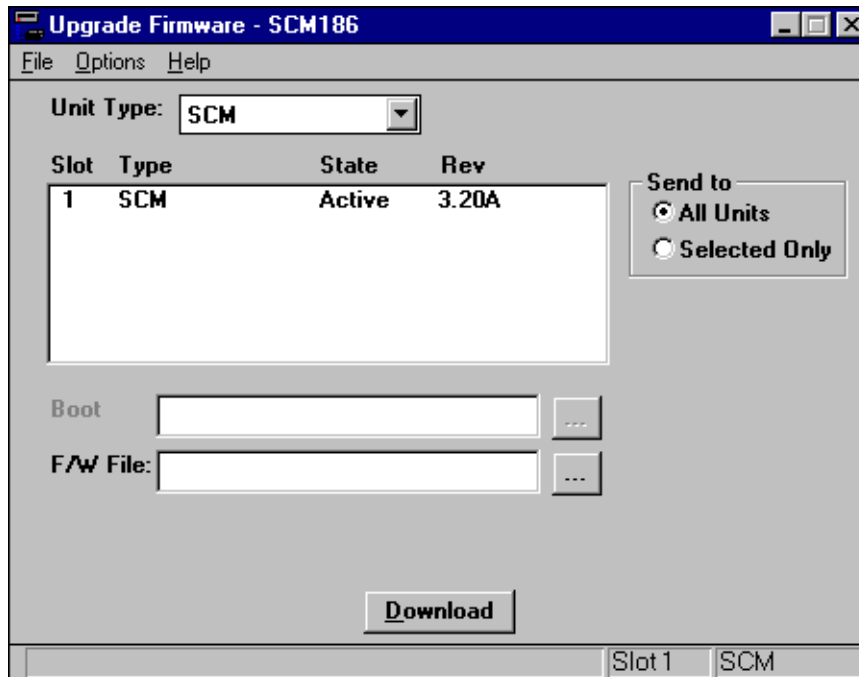

Figure 6-3 Upgrade Firmware Window
2. From the Administer menu select the Upgrade Firmware option. See *Figure 6-3*.